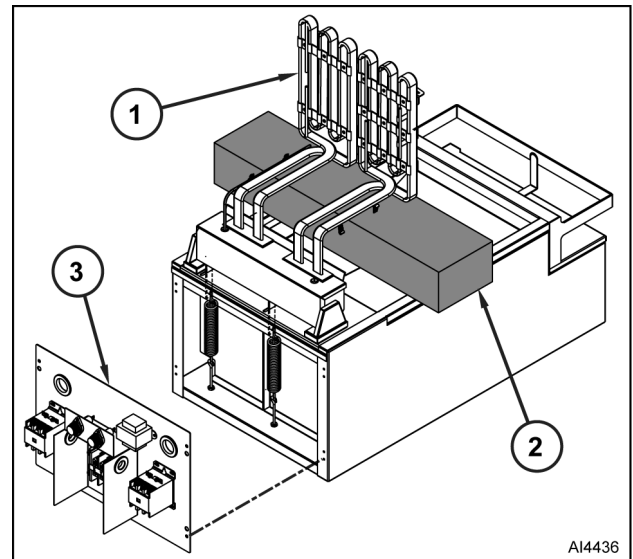

Fig. 16
1. Raise heating elements (1, Fig. 16) and place 2x4 lumber (2) under them for support.
3. Remove screws and electrical panel (3, Fig. 16).